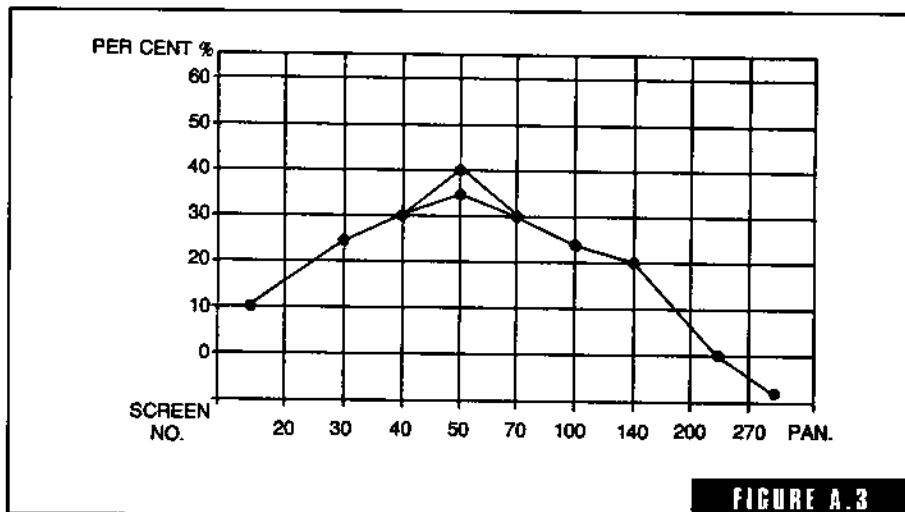

FIGURE A.3
**A.F.S. grain distribution** The distribution in percent of various sizes of grains in a given sand established by running a sample through a standard set of screens and weighing the sand retained on each screen. The distribution is then expressed on a graph (Fig. A-3). Sand with 70 to 80 percent retained on three adjacent screens is considered ideal.